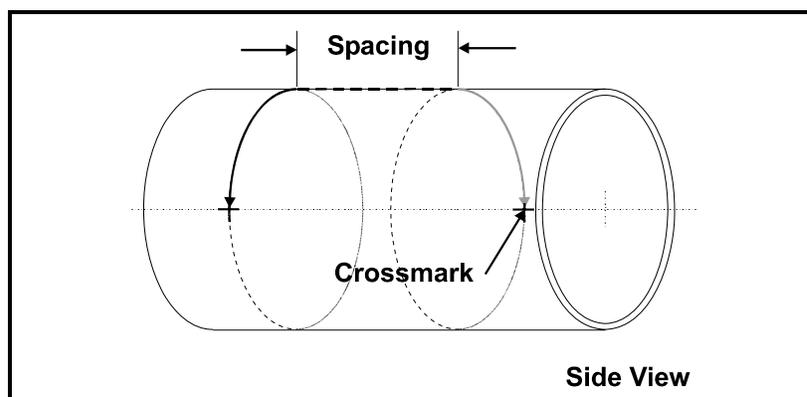

Figure 18: Measuring the Second Quarter Circumference
7. From the other mark, go in the opposite direction around the pipe for one quarter the circumference and make another crossmark, as shown in Figure 18 below.